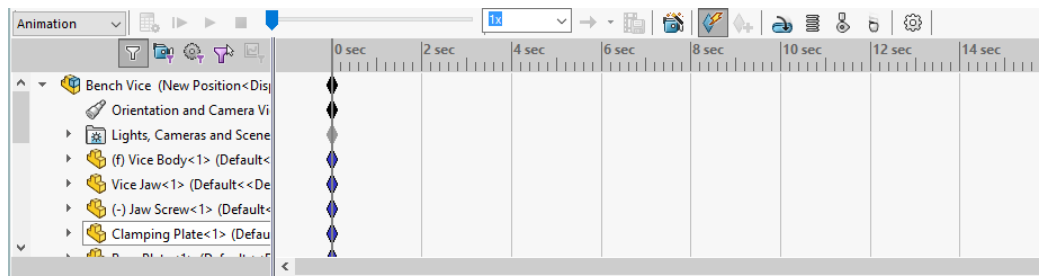

Figure 20-20 The MotionManager interface
- Click on the **Motion Study 1** tab displayed at the bottom; the **MotionManager** interface is displayed, as shown in Figure 20-20.